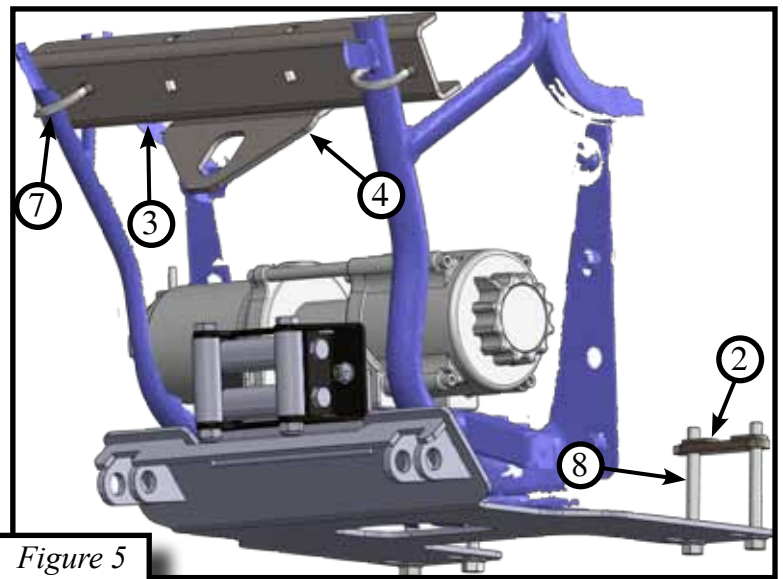

Figure 5
6. Attach the U-Bolts (Item #7) around the front frame tubing and into the mount channel. Tighten the U-bolts down evenly. Shown in Figures 5, 6 & 7.